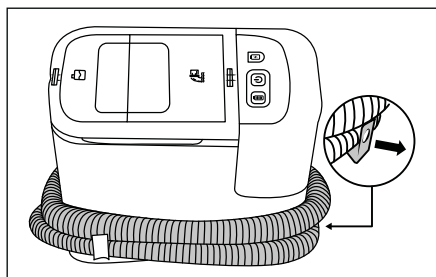

Fig. 10
- ◆ Pull the hose holder **15** out of the appliance. Place the spray/suction hose **19** around the appliance using the hose holders **15/16** (see Fig. 10).